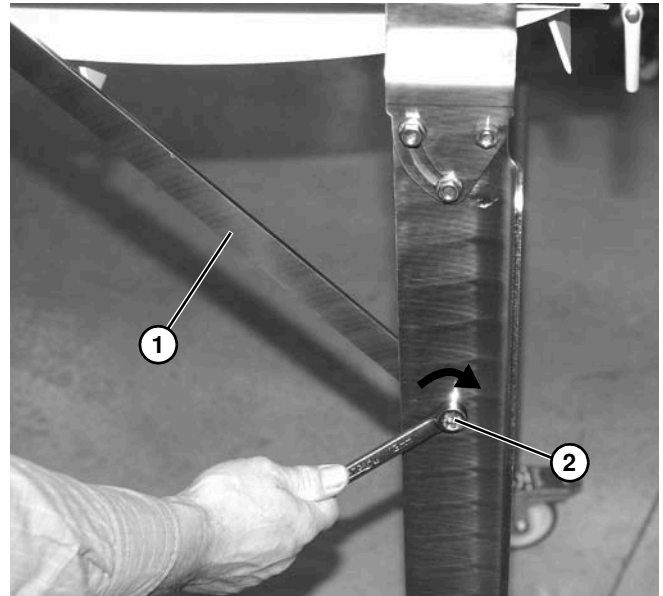

Figure 7
1. Attach the brace (**Figure 7, item 1**) to the stand with screw (**Figure 7, item 2**) and nut. Do not tighten at this time.